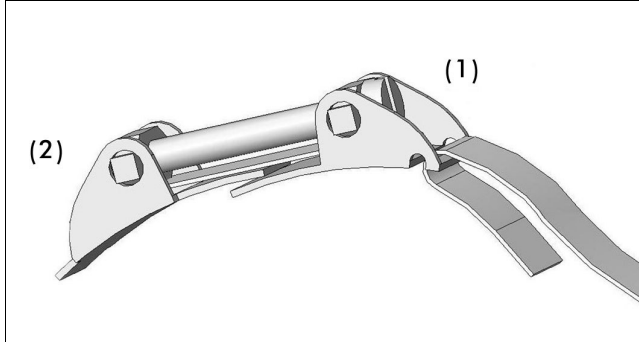

Fig. 7.4: Oetiker clasp with tension strap
- Pull approx. 2 cm of the tension strap through the slot of part (2) of the clasp (Fig. 7.4) and bend it back to fasten the strap to the clasp.